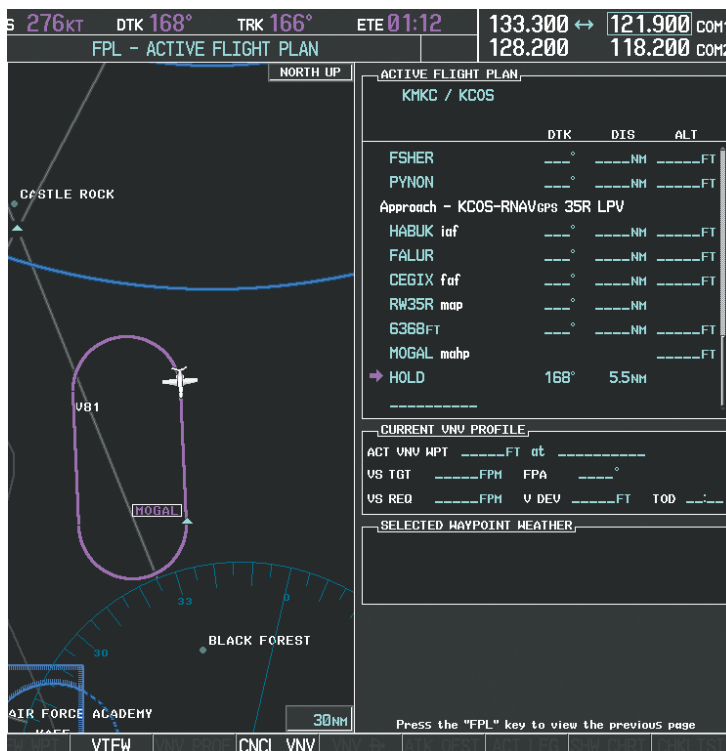

Figure 5-153 Hold Established
27) The aircraft maintains 10,000 feet while following the magenta line through the hold as in Figure 5-153.